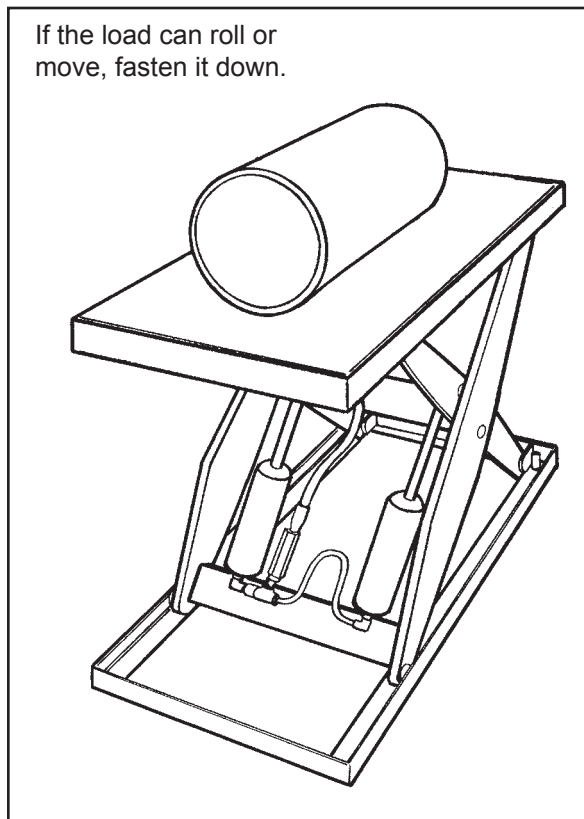

Figure 4 – Secure the Load
- If you are lifting pipes or other objects which may be able to roll or move, fasten them down, or chock them. Fig. 4. Be sure all workers are clear of the lift. Remove any material which may fall onto the lift.